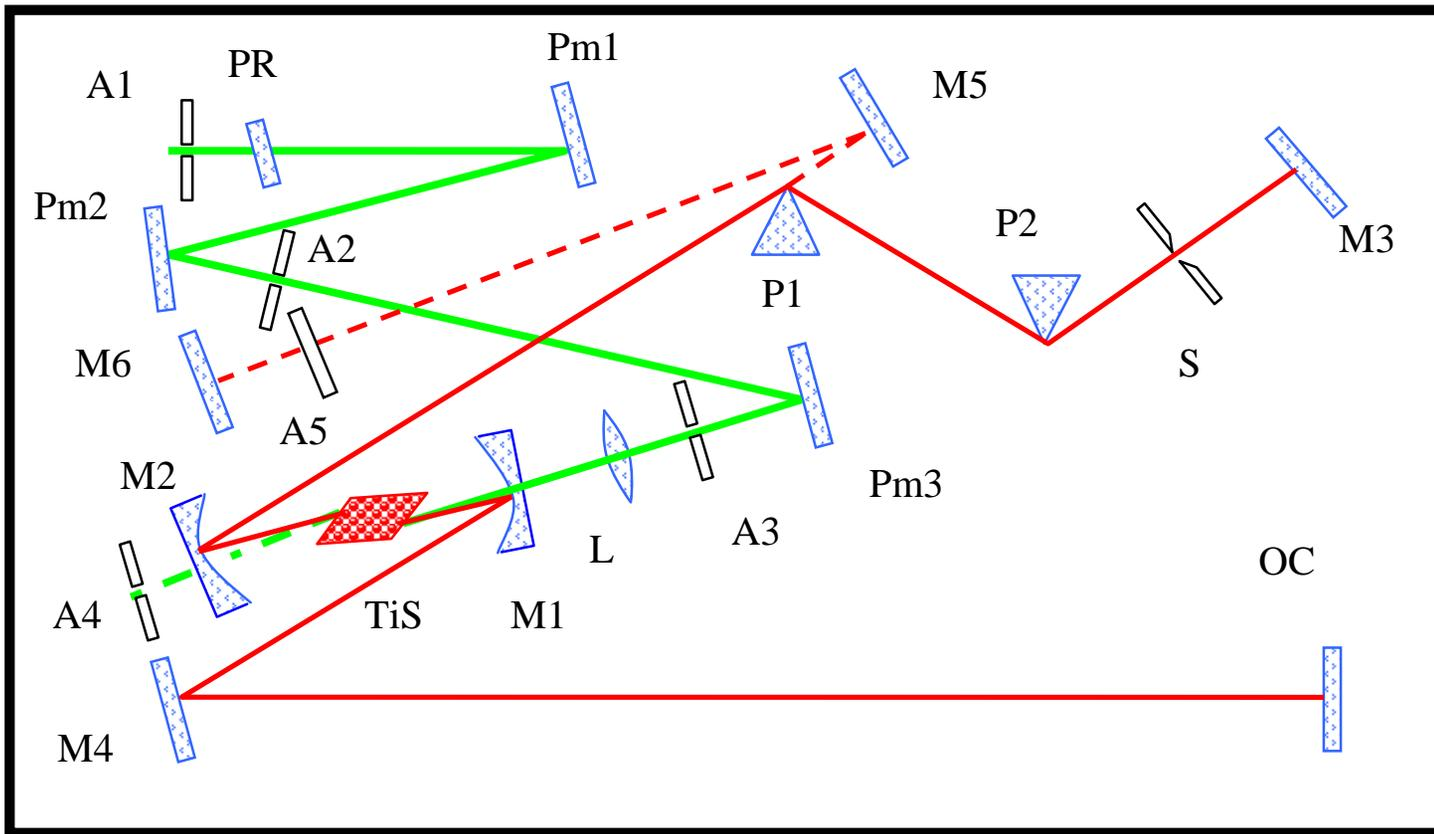

Figure 2. Basic Layout of Trestles-50.
Del Mar Photonics modeled, analyzed and optimized the cavity design for optimum performance in minimal space. The result was a five mirror folded cavity (Figures 2 and 3). This scheme incorporates 5-mirror cavity (M1, M2, M3, M4, OC), Ti:sapphire crystal (TiS), lens for focusing of pump radiation (F), two prisms (P1 and P2) and slit (S).
The scheme of Trestles-50 depicted in Figures 2 and 3 consists of the following optical elements for the basic configuration:
Our laser is a flexible system which gives you a possibility to change laser cavity on your own will. You can improve your laser according to recent and future achievements in the field making only minor changes of optical and mechanical components. These instructions have been written for modified model where optical scheme incorporating 5 -mirror cavity in z-configuration (Figure 2) where slit(S) and P2 translation stage are combined in one module.